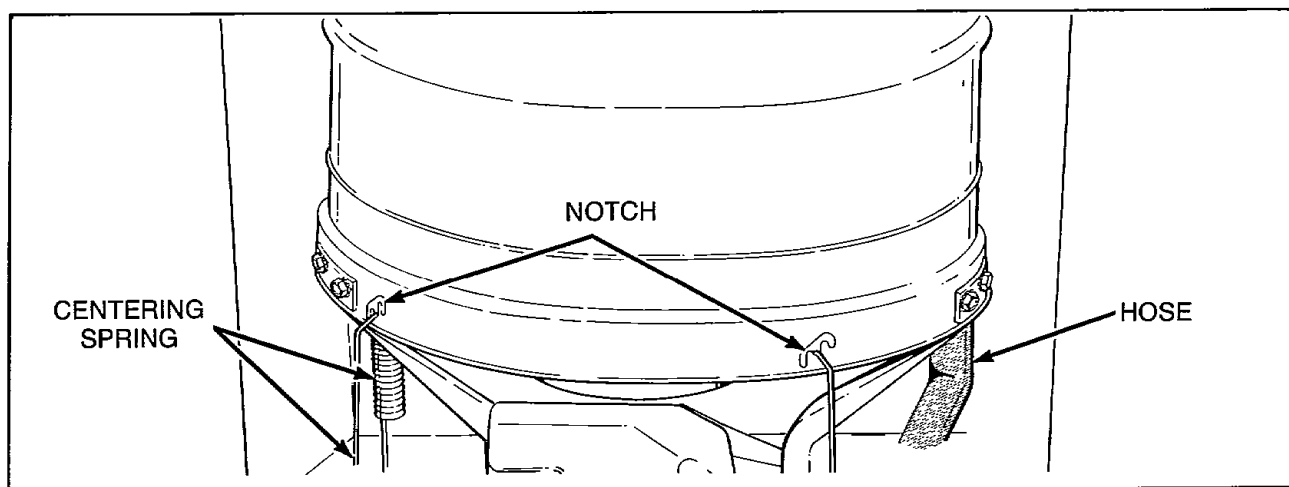

Figure 30
- n. Using the No. 229P4 Spring Hook Tool, unhook the five centering springs from lower edge of outer tub, *Figure 30*.
- i. Using the No. 229P4 Spring Hook Tool, unhook the five centering springs from the lower edge of outer tub, *Figure 30*.